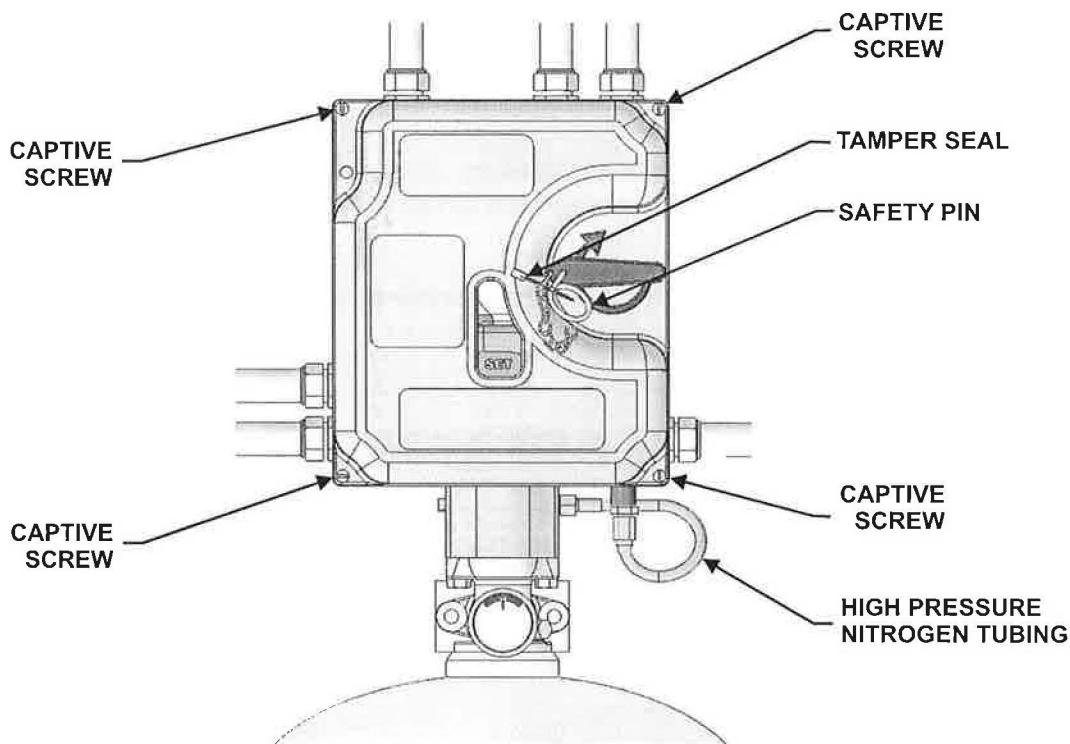

Figure 5-17. Cylinder Mounted UCH Control System
19. Secure the High Pressure Nitrogen Tubing back onto the bottom of the UCH Control System. Ensure that the fit is properly snug to prevent leakage. Refer to Figure 5-17.